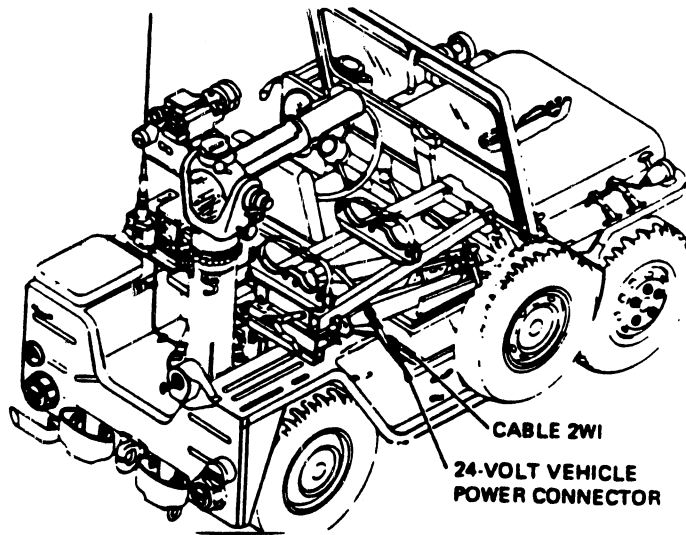

Fig 2-35. Cable 2W1/24 volt-vehicle power connector.
Step 8. Connect cable 2W1 to the 24-volt vehicle power connector (fig 2-35).